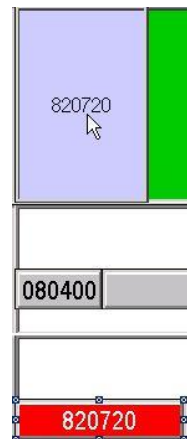

Figure 133: Highlighting Processes
- 1) Move the mouse pointer slightly over the bin. The assigned process will be selected and highlighted. *Please refer to the Figure 133.*